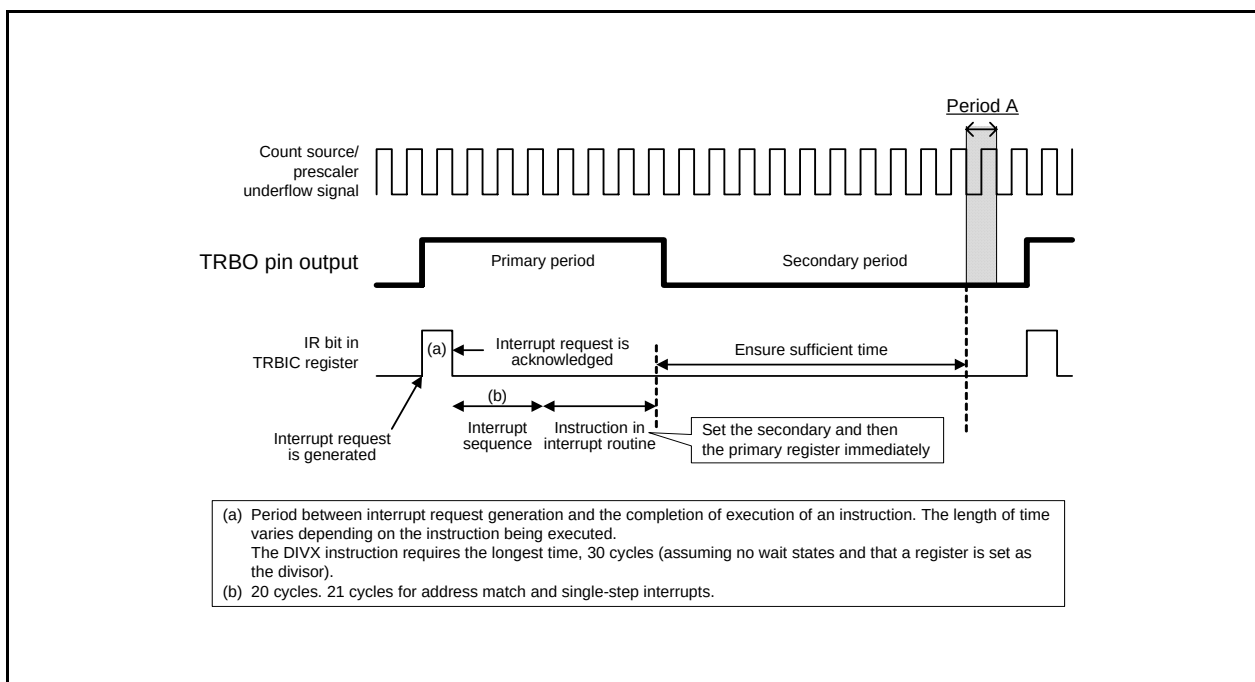

Figure 16.25 Workaround Example (a) When Timer RB interrupt is Used
- (1) To write to registers TRBPRES and TRBPR during count operation (TCSTF bit is set to 1), note the following points:
- (2) To change registers TRBPRES and TRBPR during count operation (TCSTF bit is set to 1), synchronize the TRBO output cycle using a timer RB interrupt, etc. This operation should be performed only once in the same output cycle. Also, make sure that writing to the TRBPR register does not occur during period A shown in Figures 16.25 and 16.26.
As shown in Figure 16.25, write to registers TRBSC and TRBPR in the timer RB interrupt routine. These write operations must be completed by the beginning of period A.